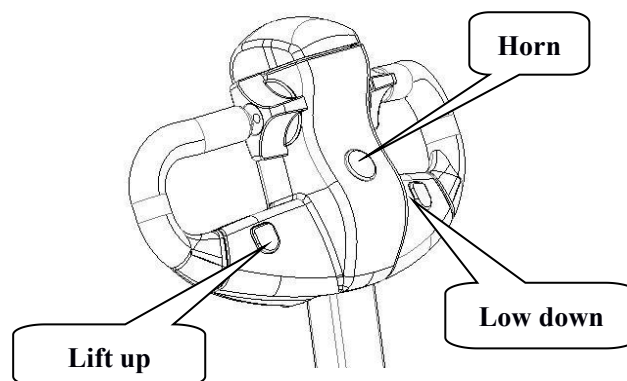

figure 2-4.
4.4 Lift up and down button, horn button, see details in figure 2-4.